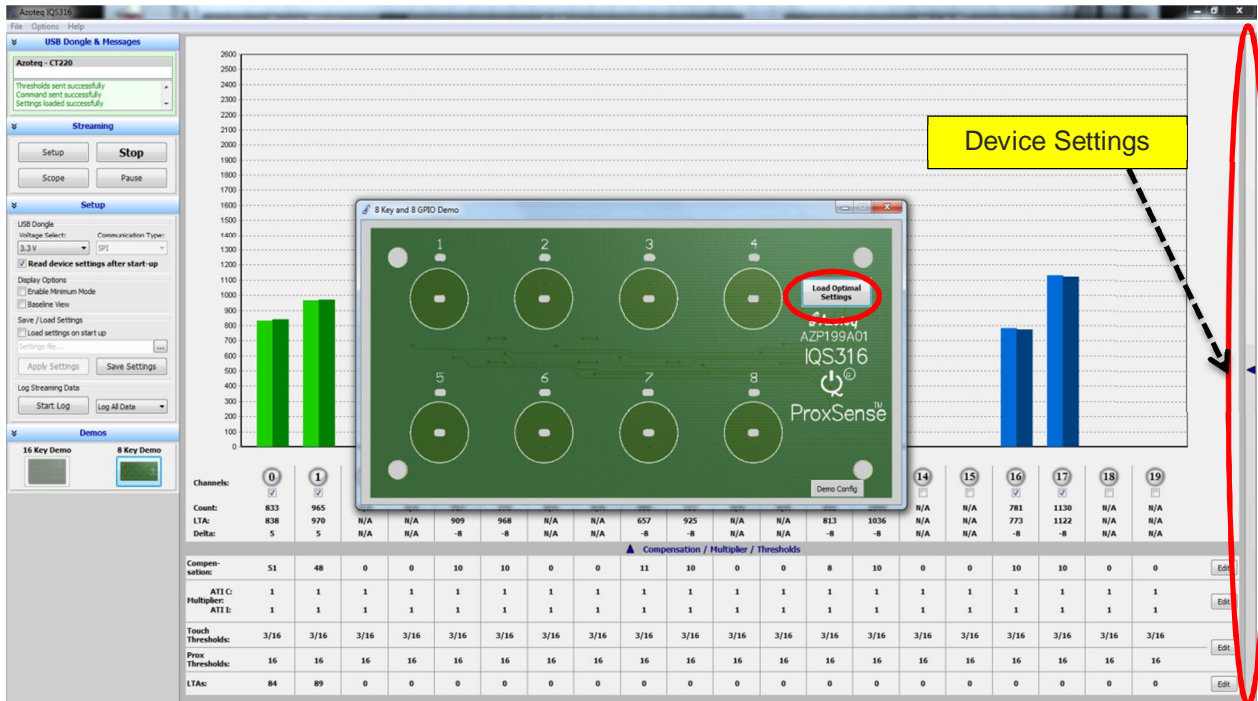

Figure 5.6 Setting up the GUI for 8-Key Demo operation
See Figure 5.6 for the next steps.
- Click on “Load optimal settings” as depicted in Figure 5.6.
- The device settings can be viewed and adjusted by clicking on the bar on the right-hand side of the GUI, as depicted in Figure 5.6.